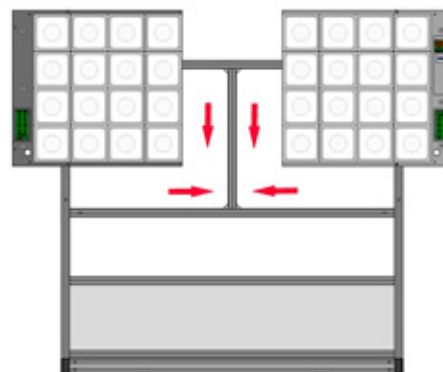

Fig. 3.2-14
I. Attaching the touch pads: (**Fig. 3.2-14**)